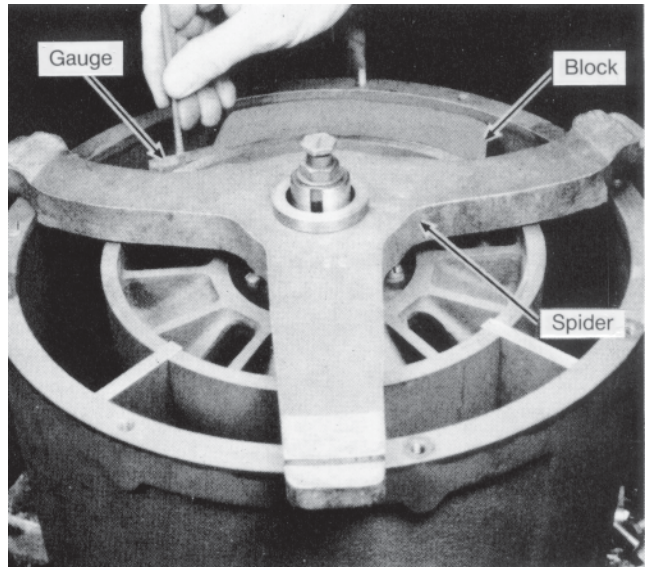

Figure 24 –Checking Rotor to Block Clearance, Series F4
2. Check rotor to block clearance, Figure 24, and compare with Clearance Guide.